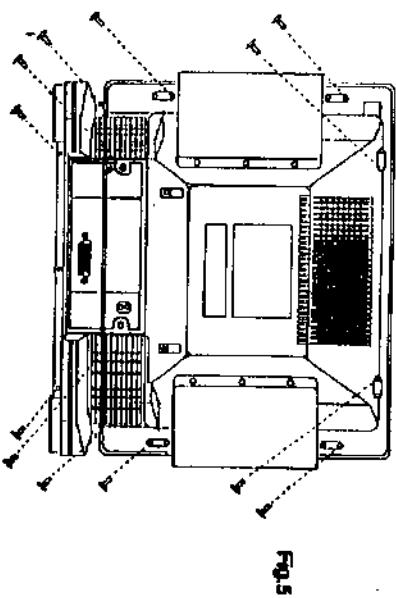

Fig.5
CABINET BACK REMOVAL (See Figure 5)
7. Adjust T103 to obtain maximum amplitude of response at 38.9 MHz as in Fig.5.